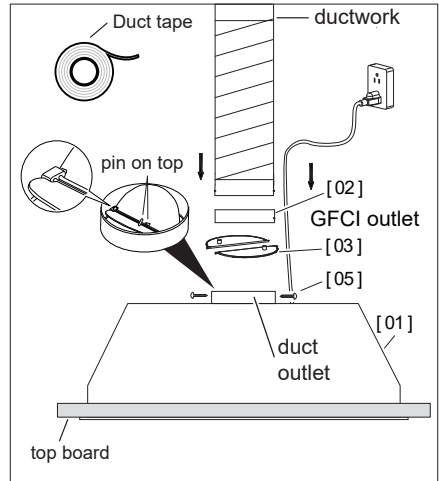

Fig 3
1. Install both **Damper Flaps [03]** inside the **duct outlet**, making sure the pins are on top. (Fig 3)
2. Install **Metal Adapter [02]** to the duct outlet and secure it with **#4 x 0.31" Screws [05]**. Secure your ducting connection to the **duct outlet** using **Duct tape** to hold it in place. Try to minimize the use of elbows. More elbows and longer runs will reduce the air suction. Use **Duct tape** to make all joints secure and air tight. (Fig 3)